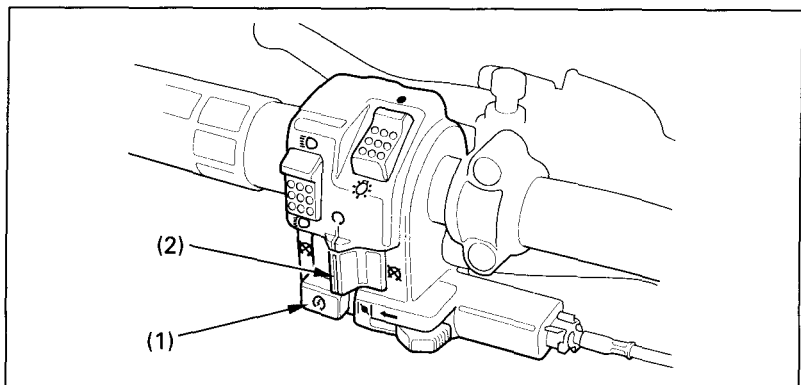

Fig. 2-7 (1) Starter button
The starter button (Fig. 2-7) is below the engine stop switch. To start the engine, press the starter button (1), with the transmission in neutral, the ignition switch ON ( I ) and the engine stop switch (2) at RUN ( O ).